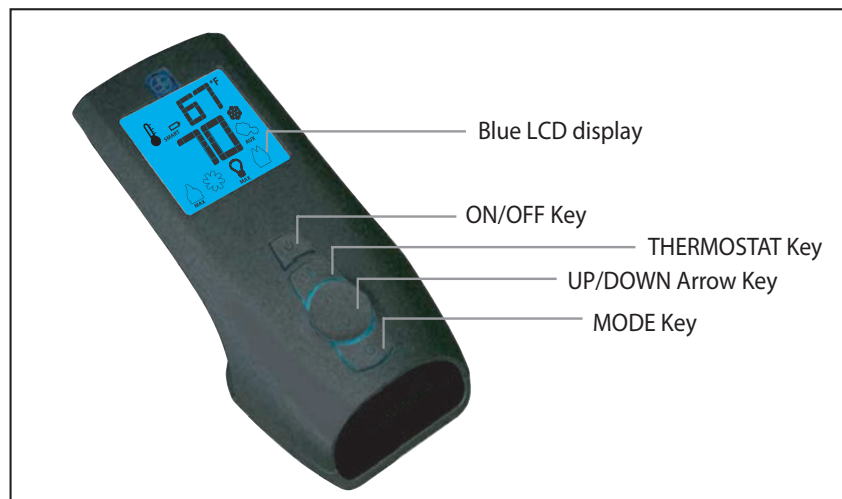
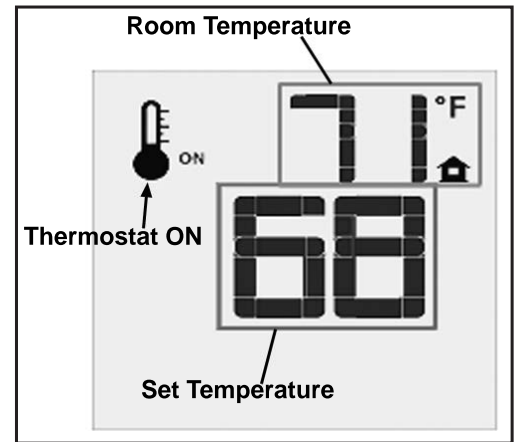
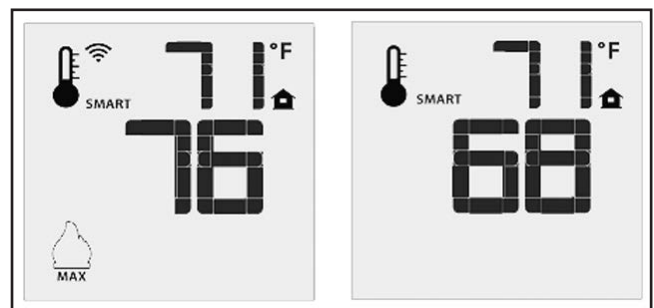
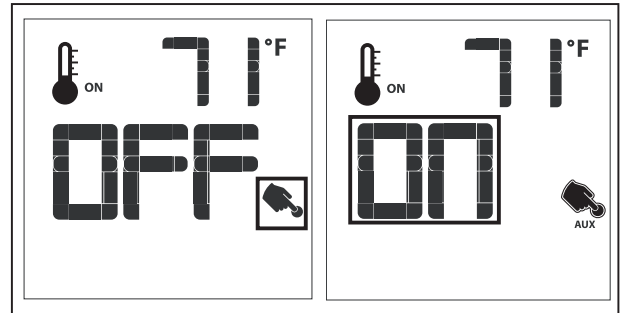

Figure 4: Proflame 2 Transmitter.
Figure 9: Remote Control Displays Set Temperature.
Figure 10: Remote Control's Smart Flame Function.
Figure 13: Aux (Top Light) Control
The Proflame 2 Transmitter is a black remote control with a blue backlit lcd display. It uses a streamline design with a simple button layout and informative lcd readout (Figure 5). The Transmitter is powered by three (3) AAA type batteries. A Mode Key is provided to Index between the features and a Thermostat Key is used to turn on/off or index through Thermostat functions (Figure 4 & 5)
Press the ON/OFF Key on the Transmitter. The Transmitter LCD display will only show the room temperature and Icon (see Figure 9). A single “beep” from the IFC confirms reception of the command and both the pilot light (if the unit is not set to continuous pilot) and main burner will turn off.
The Remote Control can operate as a room thermostat. The thermostat can be set to a desired temperature to control the comfort level in a room. To activate this function, press the Thermostat Key (see Figure 4). The LCD display on the Transmitter will change to show that the room thermostat is “ON” and the set temperature is now displayed (see Figure 9). To adjust the set temperature, press the Up or Down Arrow Keys until the desired set temperature is displayed on the LCD screen of the Transmitter.
The Smart Thermostat function adjusts the flame height in accordance to the difference between the set point temperature and the actual room temperatures. As the room temperature gets closer to the set point the Smart Function will modulate the flame down. To activate this function, press the Thermostat Key (Figure 4) until the word “SMART” appears to the right of the temperature bulb graphic (Figure 10). To adjust the set temperature, press the Up or Down Arrow Keys until the desired set temperature is displayed on the LCD screen of the Transmitter.
The firebox toplight can be controlled with the Transmitter. The light is non-adjustable but can be turned on and off as desired. To control the top light press the MODE key (Figure 4) to index to the AUX control icon (Figure 13). Use the UP/DOWN arrow keys to turn the light on or off. A single beep from the IFC will confirm the command has been received. The top light is most noticeable when the flame is set to the lowest setting. It can also be left on when the flame is off (see Remote Flame Control section) to highlight the log set.
2. Remove the (14) T-20 bolts retaining the access panels as shown in Figure 10.